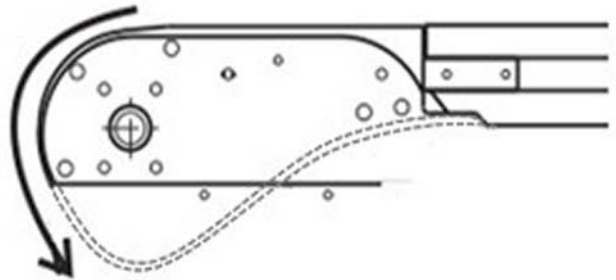

Figure 98
- The conveyor chain must show some slack during operation (See **Figure 98**).